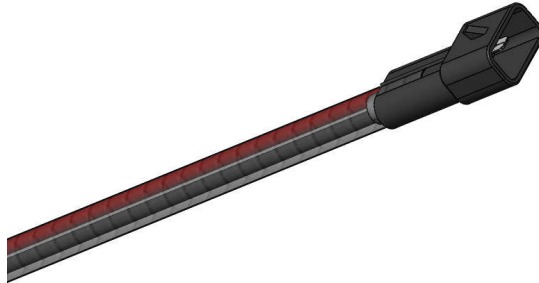

FIGURE 1-16
21. Find a suitable place in the engine bay to mount the relay and fuse holder. Once mounted route the fuel pump power wire to fuel pump and make the connections (pump power connection shown). **FIGURE 1-16**